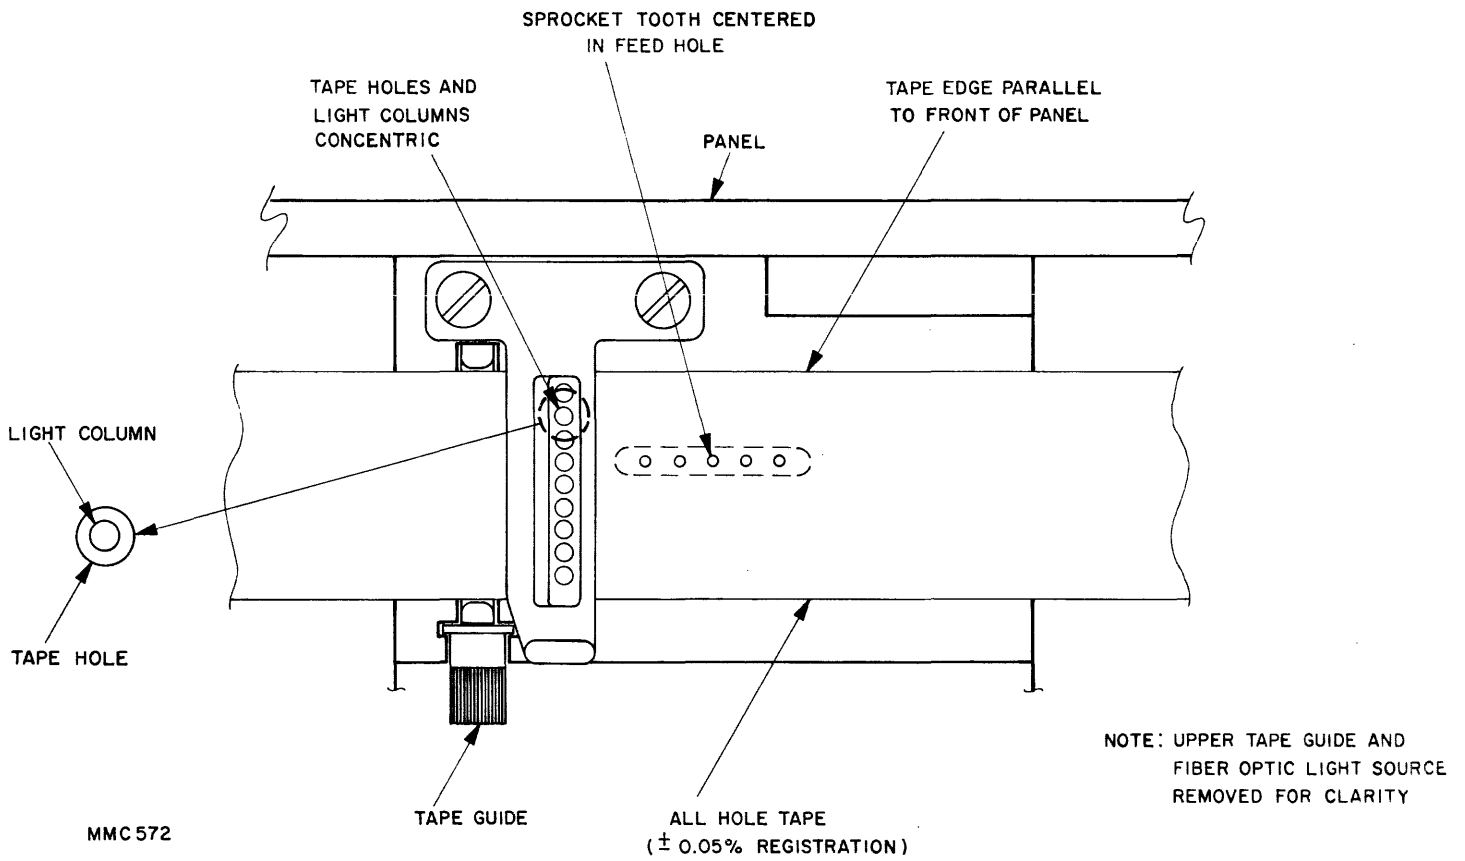

Figure 5-5. Alignment of the Sprocket with the Light Columns.
- g. Loosen nut (T) which holds the fiber optics light source to the reader panel and rotate the light source away from the light tunnels.
- h. With the rear edge of the tape parallel to the front panel, align the holes over the light columns in the readout assembly so that they are concentric. See Figure 5-5. The tape must remain parallel to the front panel so that no skew is present. With the tape in this position, the sprocket teeth should be centered in the sprocket holes in the tape. Skewing is indicated by tracks 1 and 8 not being concentric.
- i. If the conditions of step h do not exist, loosen the two set screws (J) which hold the sprocket to the motor shaft move the sprocket in or out on the shaft until the teeth are centered in the feed holes and the tape holes remain concentric with the light tunnels. Tighten screws (J). Recheck the adjustment and readjust as required.
- k. Loosen the single screw (S) which holds the motor to the heat sink (some earlier models may have two sets screws).
- o. Make sure jack screw (E) is not protruding below the surface of the Upper Tape Guide.